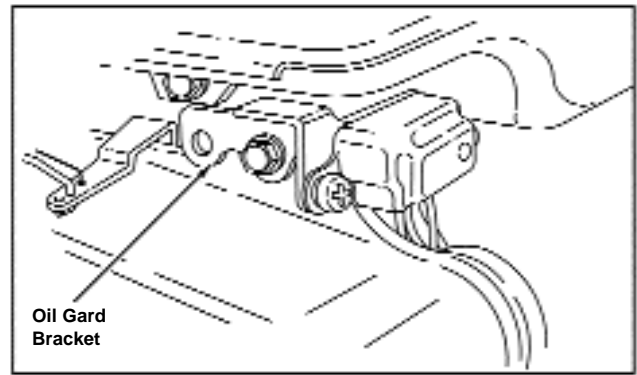

Figure 76 - Installing Oil Gard® Bracket, Typical
2. Install oil guard bracket and module if applicable. See Figure 76.